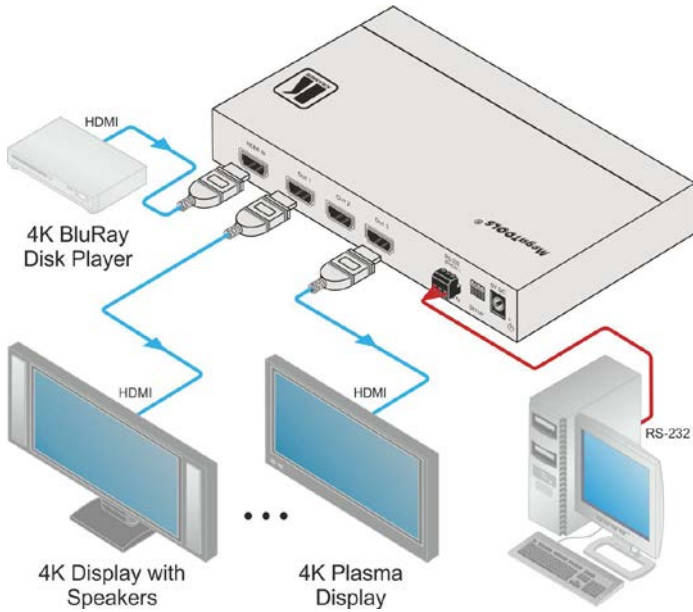

Figure 2: Connecting the VM-3H2 4K HDMI 2.0 1:3 DA
To connect the **VM-3H2**, as illustrated in the example in Figure 2, do the following:
3. Connect the 5V DC power adapter to the power socket unit and then connect the adapter to the mains electricity (not shown in Figure 2). See Section 3.3 for the state of the LED indicators during and after powering on.